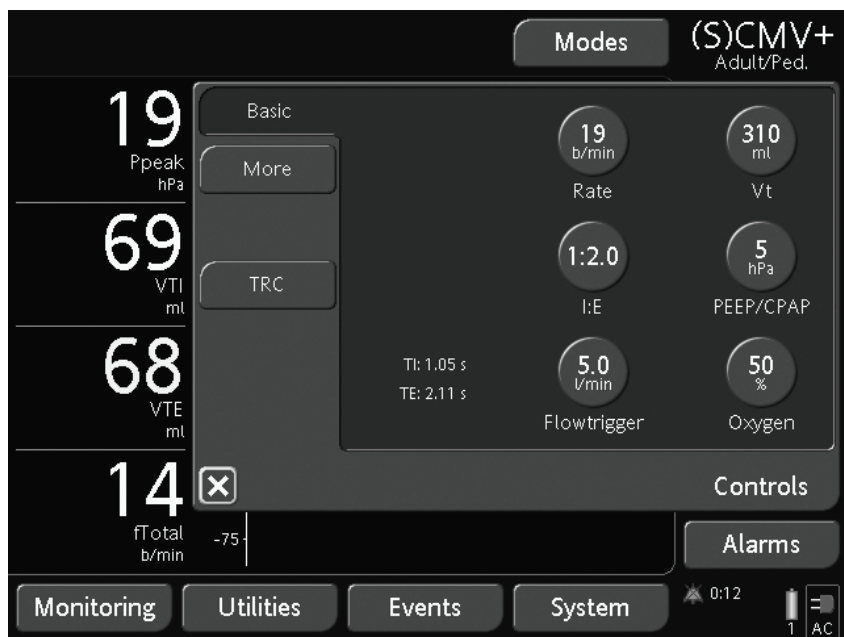
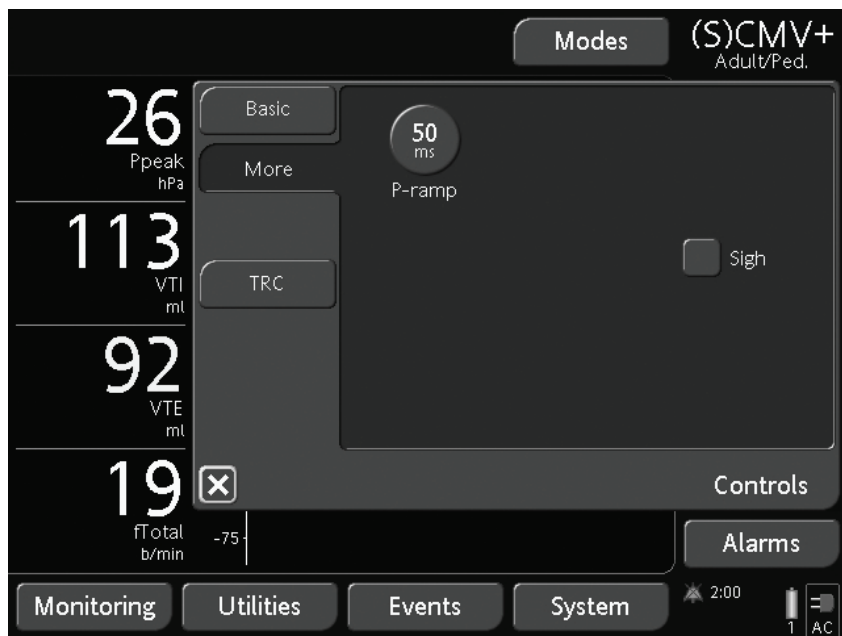

Figure B-4. (S)CMV+ basic controls
Figure B-5. (S)CMV+ more controls
The control settings active in the (S)CMV+ mode are shown in Figure B-4 and Figure B-5. The tidal volume (V_t) setting defines the delivered volume. The Rate and I:E control settings determine the breath timing. Breaths can be triggered by the ventilator, patient, or user.